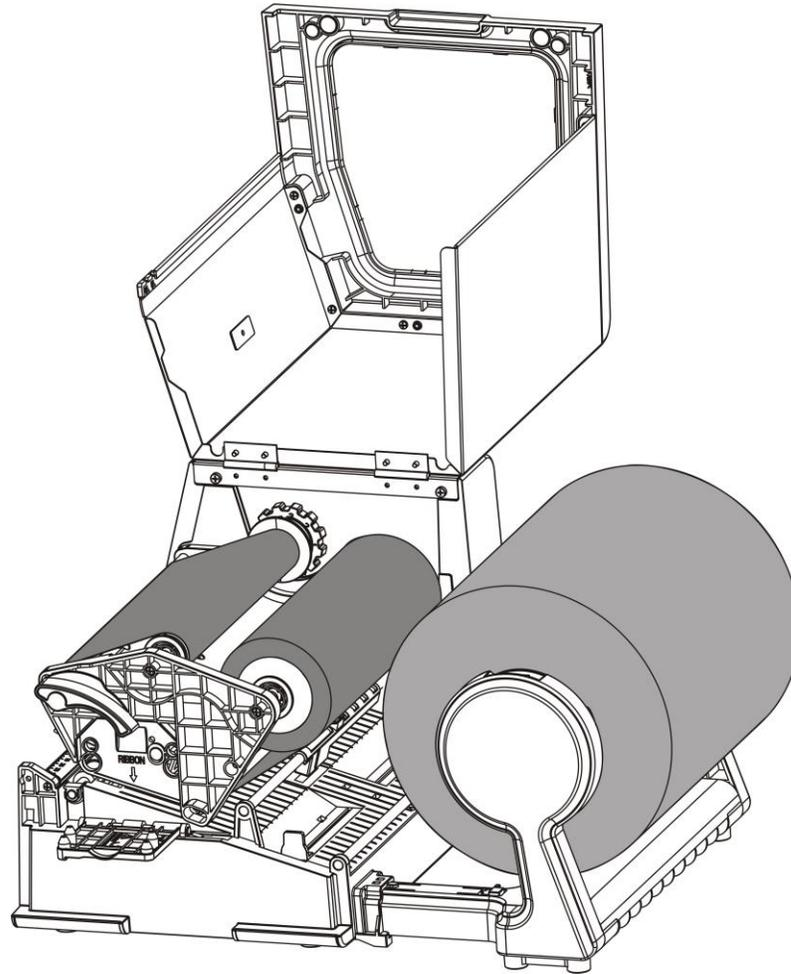

Figure 2-15
- Put the unit back into the Media Stand, and lift to open the printer's right cover, see figure 2-15.